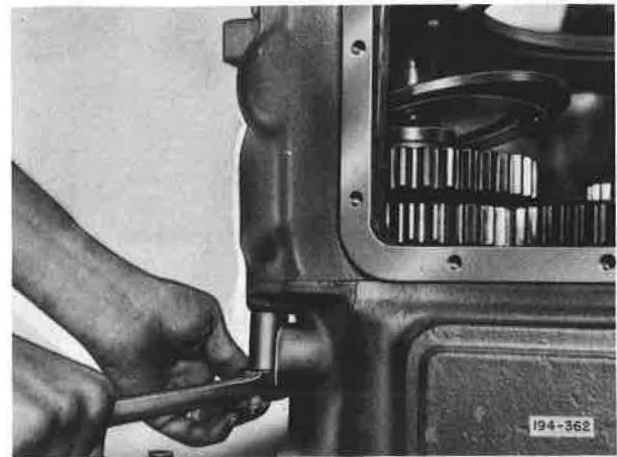

Figure 5-139. Removing Bell Housing-to-Compound Case Capscrews
7. Remove bell housing-to-compound case capscrews. See Figure 5-139. Separate compound case from bell housing and using bell housing as a base to work on, place compound case on bell housing with compound main driving pinion facing upward.